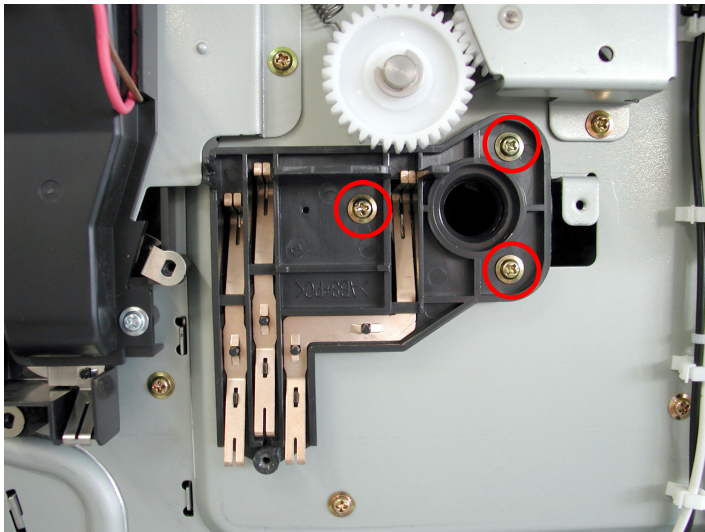

Figure 4-57. Removing the HV Thermal Assy
1. *Remove the High Voltage Unit (HV). (p.187)*
2. Remove the HV Contact Assy. (3 screws) (See "Figure 4-57 (p.201)")